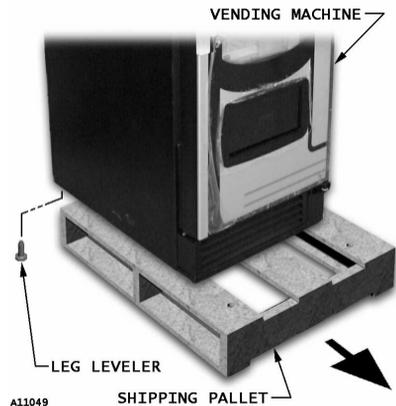

Figure 3.1. Remove the Shipping Pallet
**As a safety precaution, removing the vending machine from the shipping pallet may require at least two (2) persons. This is to prevent possible bodily injury and/or damage to vending equipment or property.**
1. Remove all four (4) leg levelers. Discard the washers. See **Figure 3.1**.
5. Tilt the vending machine back and remove the shipping pallet. Adjust all four (4) leg levelers so that machine is level and stable.